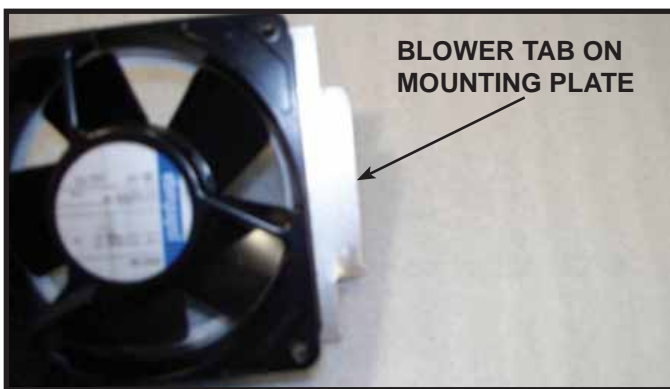
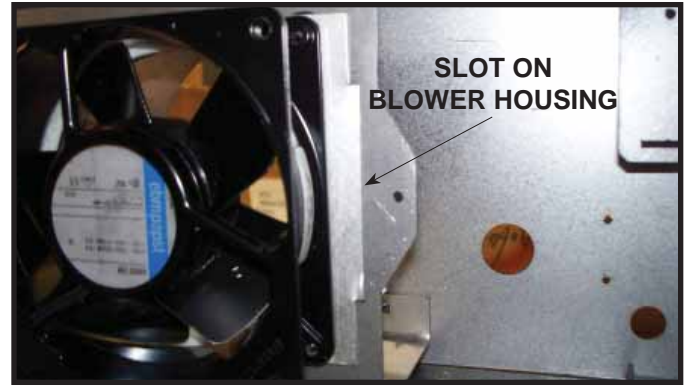

Figure 12.19. Blower Tab Toward Rear
Figure 12.20. Blower Tab Inserted into Slot on Blower Housing
12. To install new blower back into appliance, reverse the removal procedure. Install blower assembly with the tab toward the rear of the appliance. See Figure 12.19. This tab must insert into slot on blower housing inside the appliance as shown in Figure 12.20.